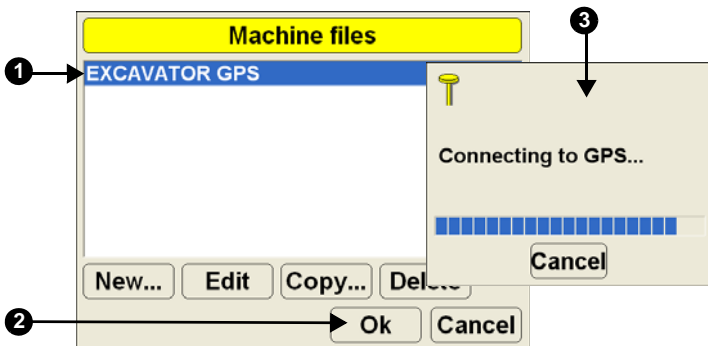

Figure 4-9. Selecting a GPS Machine Configuration
2. Select the desired GPS-configured machine file and press **Ok** (Figure 4-9).